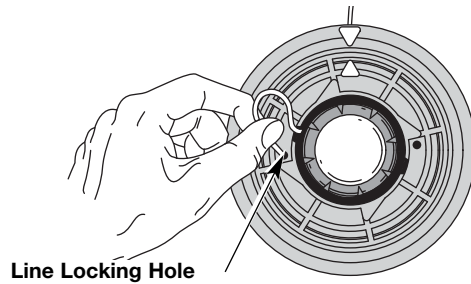

Fig. 14
5. Insert the line into the locking hole (Fig. 14). Do not push the line more than a 1/2 inch (12.7 mm) into the line locking hole. The line will form a small loop (Fig. 14) when it is inserted correctly.